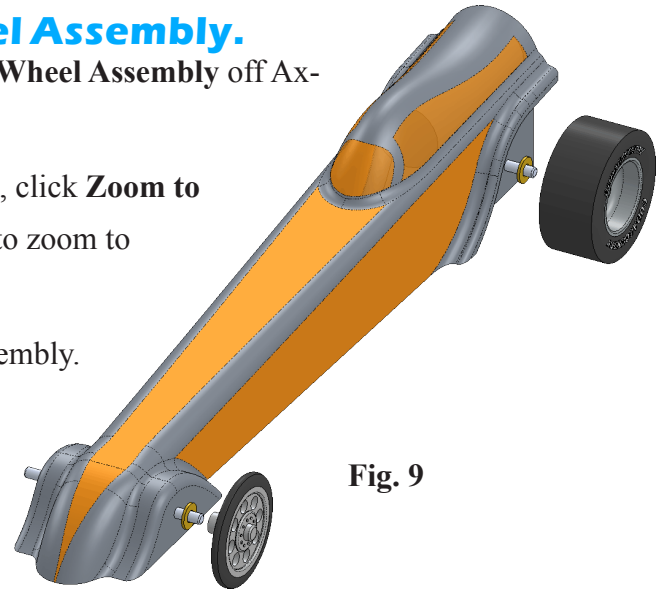
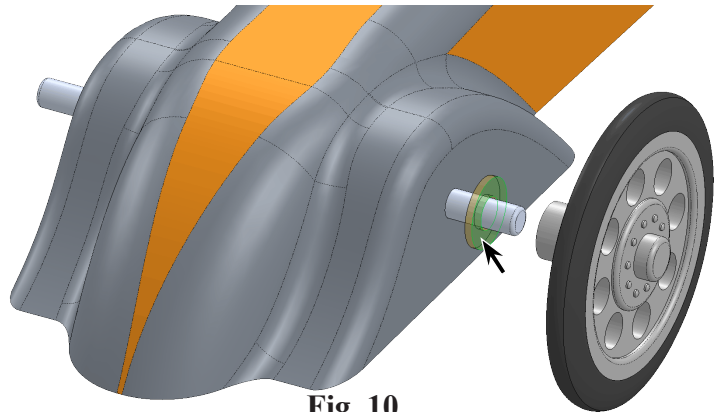

Fig. 9
Fig. 10
Step 1. Drag **Rear Wheel Assembly** and **Front Wheel Assembly** off **Axles**, **Fig. 9**.
Step 2. With the **Front Wheel Assembly** selected, click **Zoom to Selection**  (Q) on the **View** toolbar to zoom to **Front Wheel Assembly**.
Step 5. Click **side face of Washer**, **Fig. 10**.